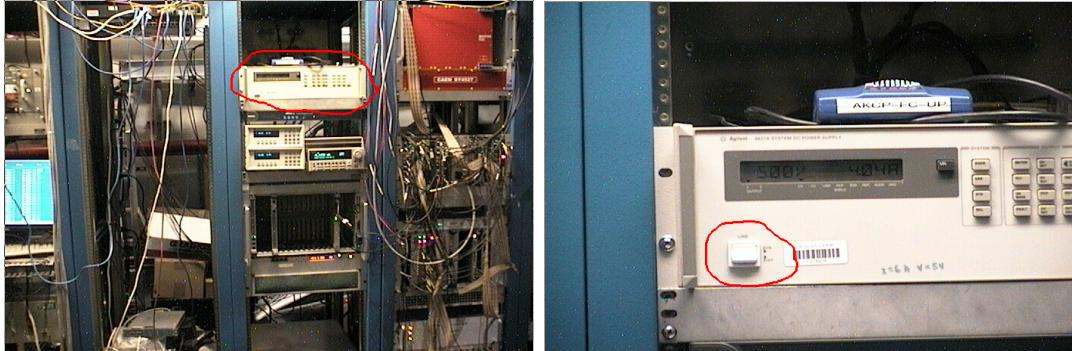

Figure 16: Location of Agilent LW power supply near the top of the middle rack in the pie tower. Power switch circled.
- The LV supply is on the Pie Tower at the top of the middle rack. See figure 16.